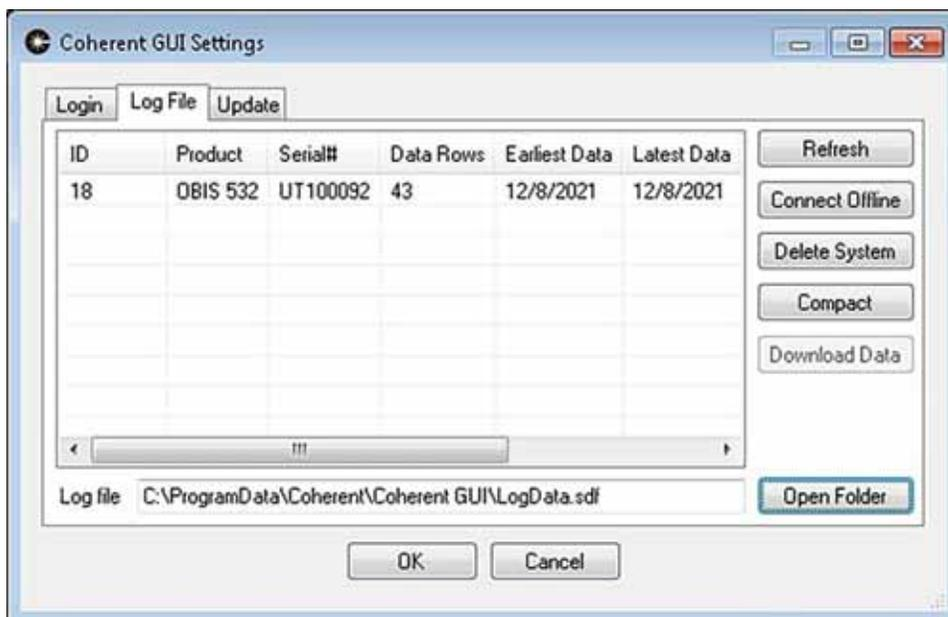

Figure 8-3. Log File Tab
2. Open the GUI Settings tab (bottom right) and then go to the “Log File” tab (see Figure 8-3).